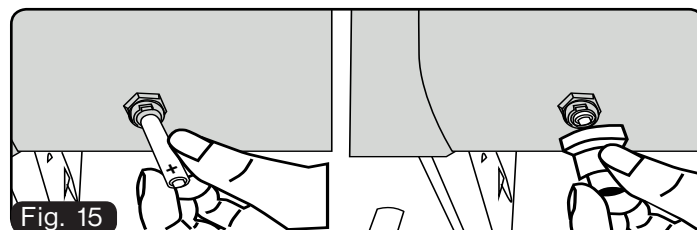

Fig. 15
14. Unscrew the pulse cap. Insert 1x AA battery (included in the package) as shown, then screw back the pulse cap. (Fig. 15)